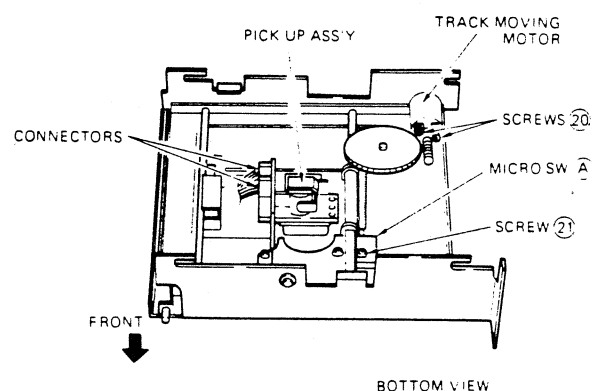

Fig. 14
- 5) Remove screw 21 and remove the microswitch A. (Fig. 14)